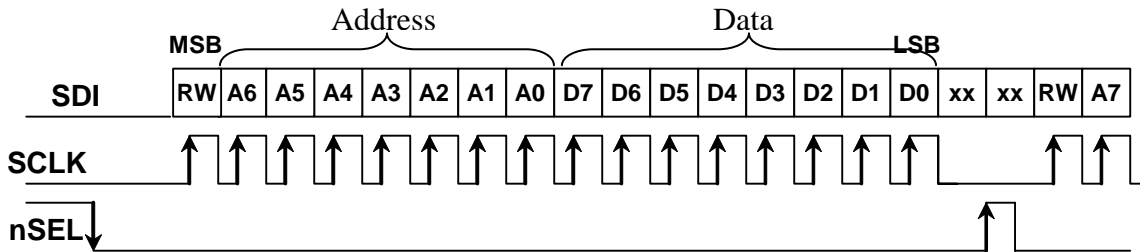

Figure 4: SPI Timing
The control logic is designed to accept data over a 3 wire SPI interface, SCLK, SDI, and nSEL. The control logic will also read out data from internal registers on a fourth SDO output pin. AN SPI transaction is a 16 bit sequence which consists of a Read-Write (RW) select bit, followed by a 7 bit address field(ADDR), and an 8 bit data field(DATA), as demonstrated in Figure 4. The 7 bit address field supports reading from or writing to one of the 128, 8-bit control registers. The RW select bit determines whether the SPI transaction is a write or read transaction. If RW=1 it signifies a WRITE transaction and if RW=0 then it signifies a READ transaction. The contents (ADDR or DATA) are latched into the digital block every eight clock cycles. The timing parameters for the SPI interface are shown in the Serial Interface Timing Parameters Table below. The clock rate for SCLK is flexible with a maximum rate of 10MHz.